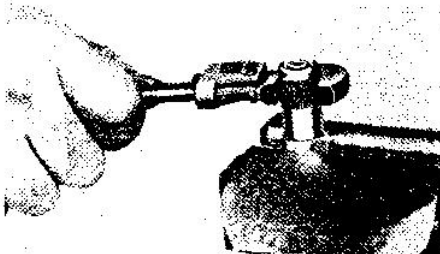

FIG. 14 - Remove sleeve from coupler.
- c. Unlock vise and tighten coupler body securely in vise. With wrench, loosen coupler sleeve (Fig. 14).